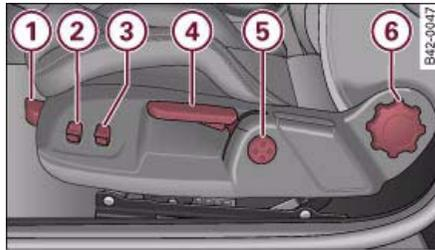

Fig. 64 Adjuster controls on driver's seat
- Lift the lever ① ⇒ fig. 64 and move the seat to the desired position.
- Then release the lever ① and move the seat further until the catch engages.